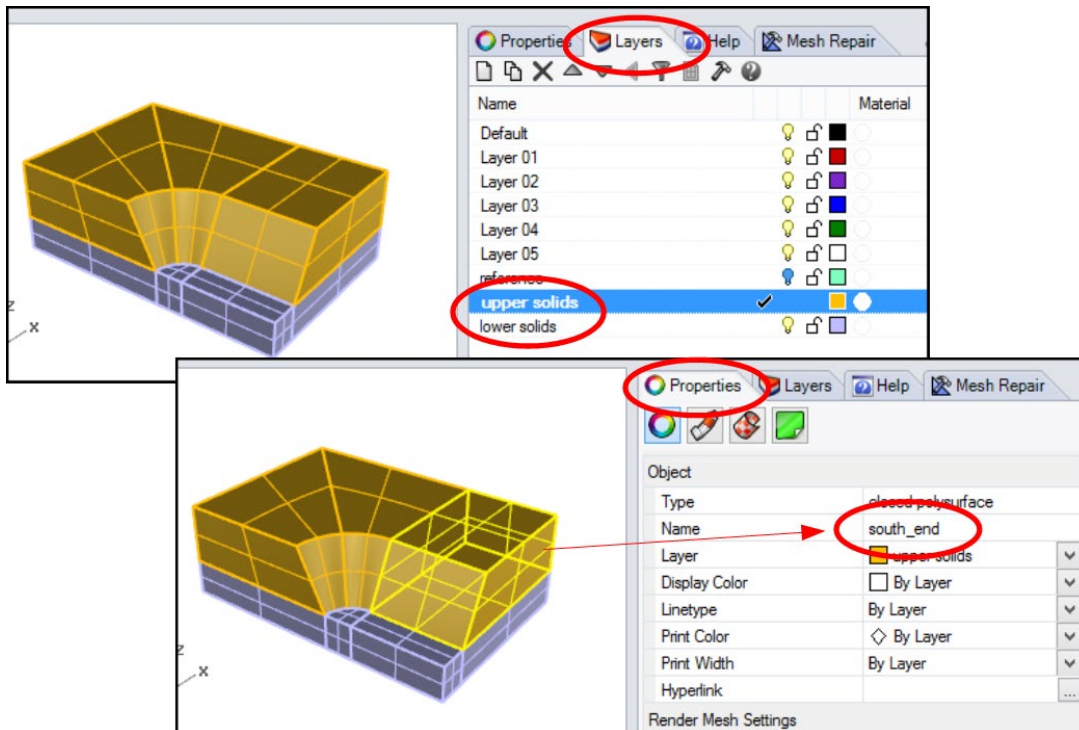

Figure 47: Naming solids by layer (top) and through the Properties Name field (bottom).
**BlockRanger** solids can be named in two ways: through the layer name that the solid belongs to and through the solid Properties Name field (Figure 47). The layer Name is used to generate zone group names for *FLAC3D* in “SLOT 1”. The Properties Name is used to generate zone group names for *FLAC3D* in “SLOT 2”.